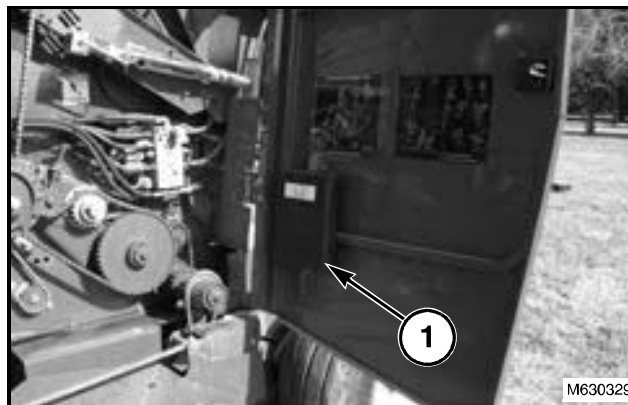

FIG. 10
FIG. 10: The Operator Manual is kept in the Operator Manual container (1) on the baler. After using the Operator Manual, return the manual to the storage container.